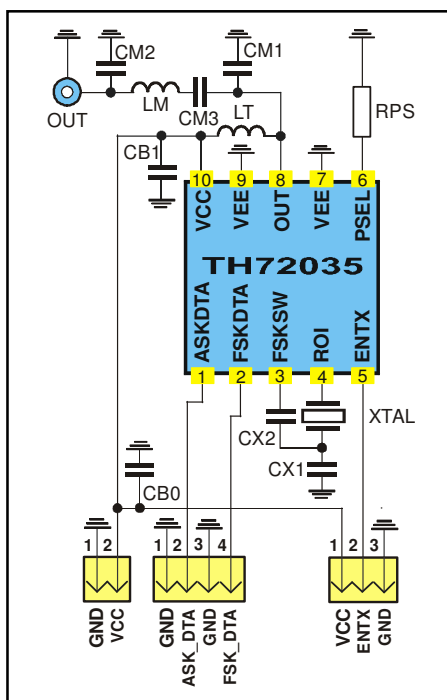

Fig. 18: Test circuit for FSK and ASK with 50 Ω matching network
typical values at $T_A = 23\text{ }^{\circ}\text{C}$ and $V_{CC} = 3\text{ V}$; test circuit shown in Fig. 18, $f_c = 868.3\text{ MHz}$
- Data according to test circuit in Fig. 18 (868.3MHz)
6.1 Test circuit component list to Fig. 18